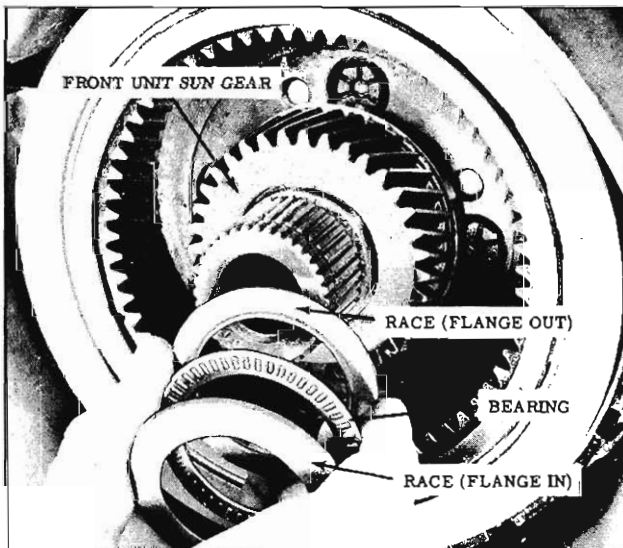

Fig. 6-98 Installing Bearing and Races
19. Install thrust bearing and races as shown and retain with petrolatum. (Fig. 6-98)